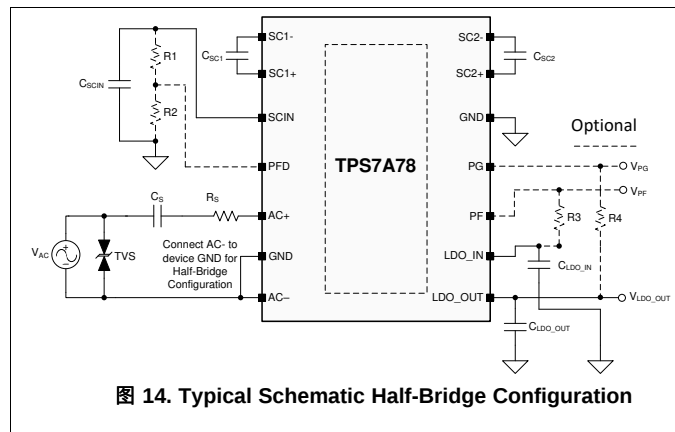

图 14. Typical Schematic Half-Bridge Configuration
7.3.2 Full-Bridge (FB) and Half-Bridge (HB) Configurations
The TPS7A78 can be configured to operate either in full-bridge (FB) or half-bridge (HB) configurations. HB configuration ties the AC input pin without the series C_S and R_S components to the device GND pins. See 图 14 and 图 15 for the HB and FB configurations.
The TPS7A78 can monitor the rectified DC voltage at the SCIN pin to provide the application with an early warning via the power-fail (PF) pin if the main power fails. An external resistor-divider network connected to the VSCIN pin provides the input to the power-fail detect (PFD) analog input pin to monitor for an AC line supply failure. When the AC supply falls below its minimum level programmed by the resistor divider R_1 and R_2 , as illustrated in 图 14 and in 图 15, the PF output is pulled low. If this feature is not used, omit R_1 and R_2 and connect PFD and PF pins to the device GND pins reference.
The TPS7A78 is a non-isolated smart AC/DC linear-voltage regulator capable of providing a maximum 120-mA load current; see 图 14 and 图 15 for the HB and FB configurations, respectively.
All the capacitors illustrated in 图 14 or 图 15 are required for proper operation. The value of C_S required to support the application current is obtained from the Calculating the Cap-Drop Capacitor \$C_S\$ section. The chosen C_S capacitor must tolerate the peak V_{AC} supply voltage of the application and meet the required safety requirements.